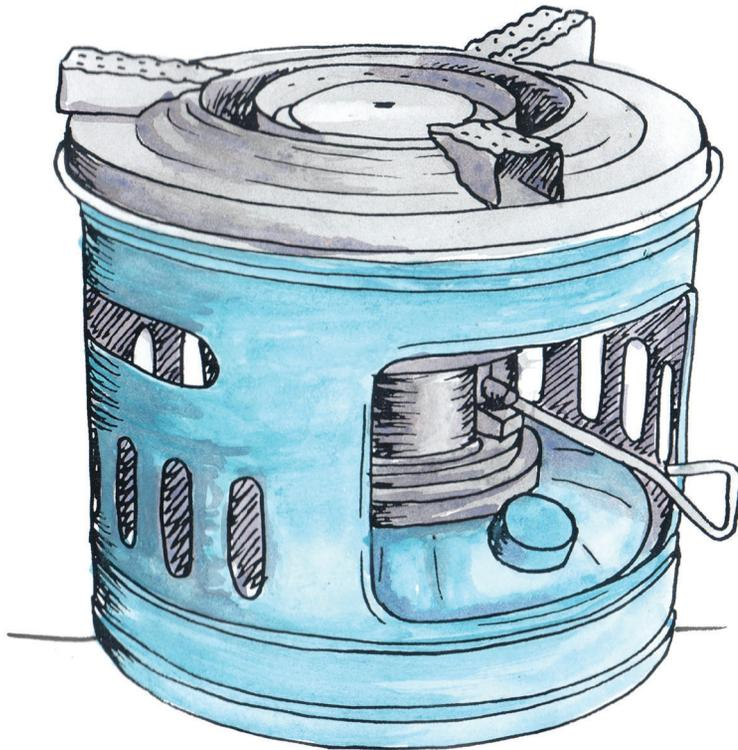

Figure 4: A paraffin stove
1. Draw the circuit diagram for Figure 4.